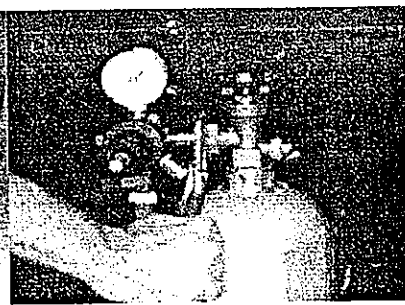

Fig. 2
- Attach the CO₂ regulator to the cylinder by turning the regulator nut onto cylinder valve, making sure washer is securely inserted into connecting nut. Tighten snug using an adjustable wrench and assure there are no leaks. (See Figure 2)